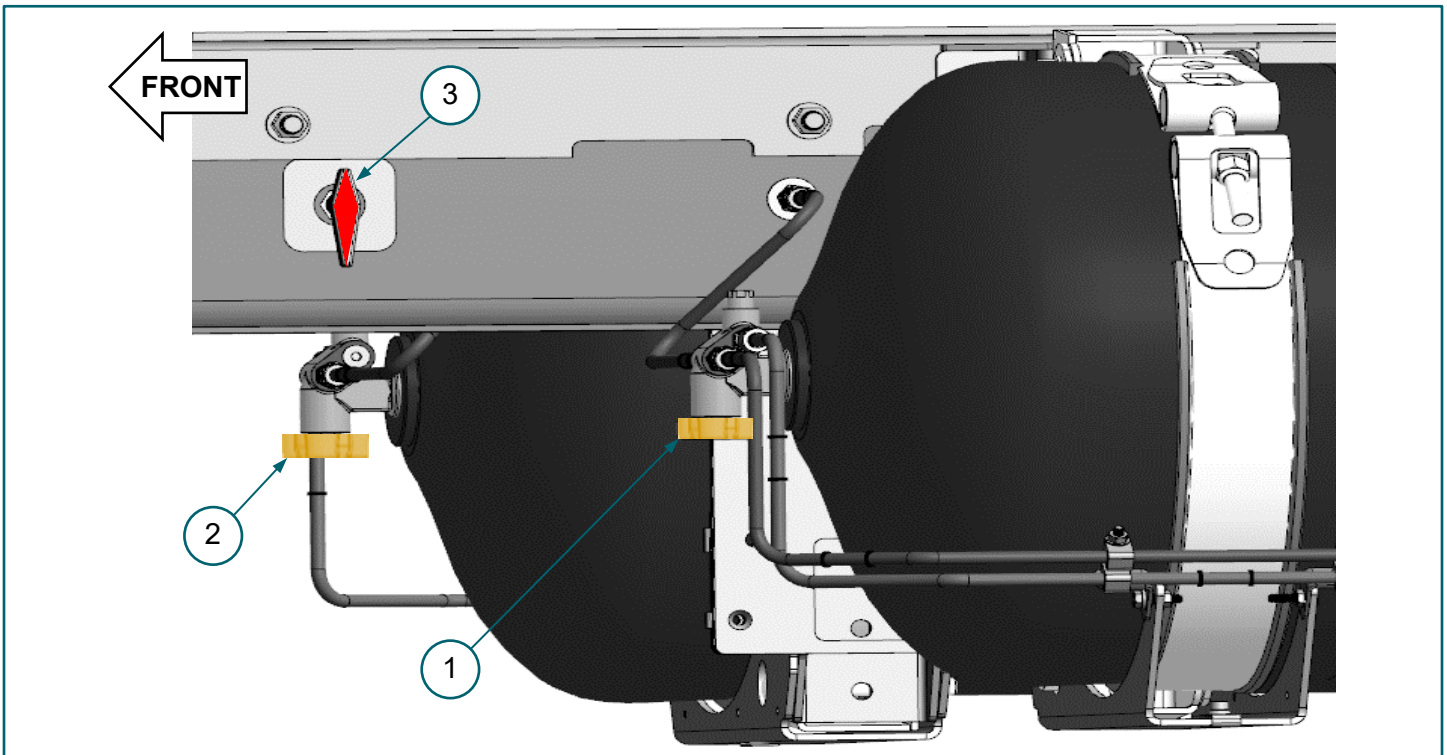

FIGURE 2-1. (1) DS manual cylinder valve, (2) PS manual cylinder valve, (3) 1/4-turn manual shutoff valve
1. Close driver side (DS) cylinder manual valve (1). **FIGURE 2-1**
2. Close passenger side manual valve (2). **FIGURE 2-1**
3. Close 1/4-turn manual shutoff valve (3). **FIGURE 2-1**